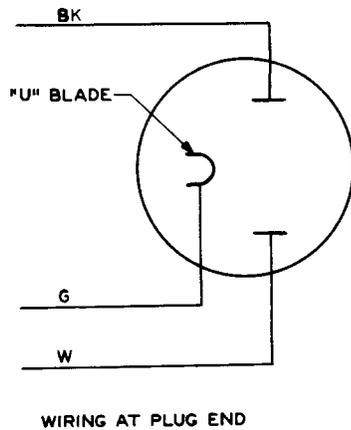

Fig. 34 – Power Plug Cap Wiring
3.69 Chain: To replace the chain, release the tension on the chain by loosening the idler sprocket lever clamping screw using two 245 wrenches. Then, with the 3-inch C screwdriver, spread the split end of the spring clip holding the chain connecting link shown in Fig. 34. Remove the coverplate and connecting link. Remove the chain. Mount the new chain in reverse order of removal. Check for the requirements covering chain tension and position of tab-clipping control stops in Section 076-143-701.